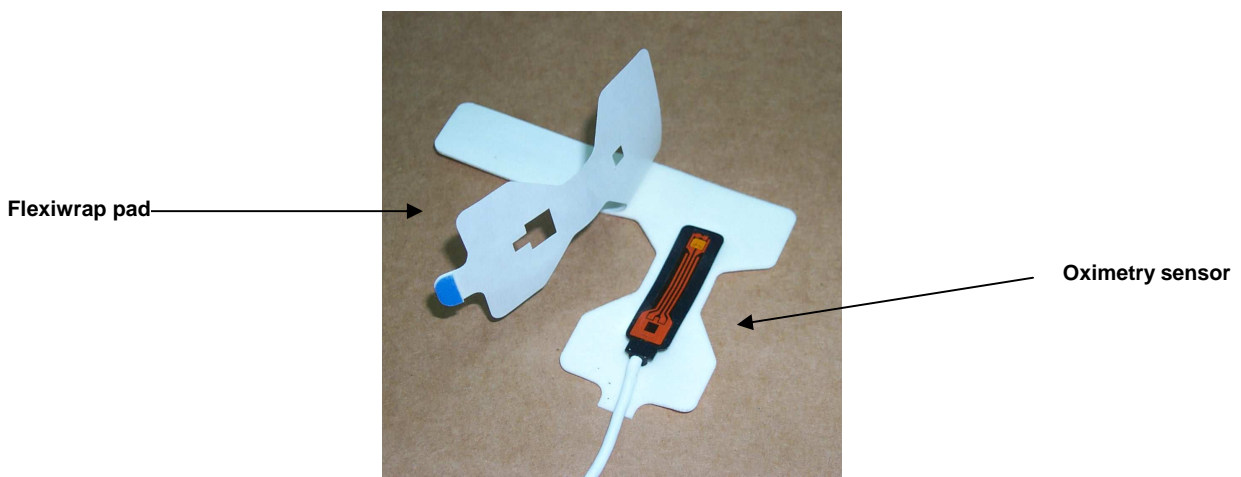

Figure 8 – Preparing The Nonin 8000JFW Oximetry Sensor
4. Place the sensor on the pad with the back facing the sticky side placing the sensor's protrusions into the corresponding cutout sections as shown in Figure 8.